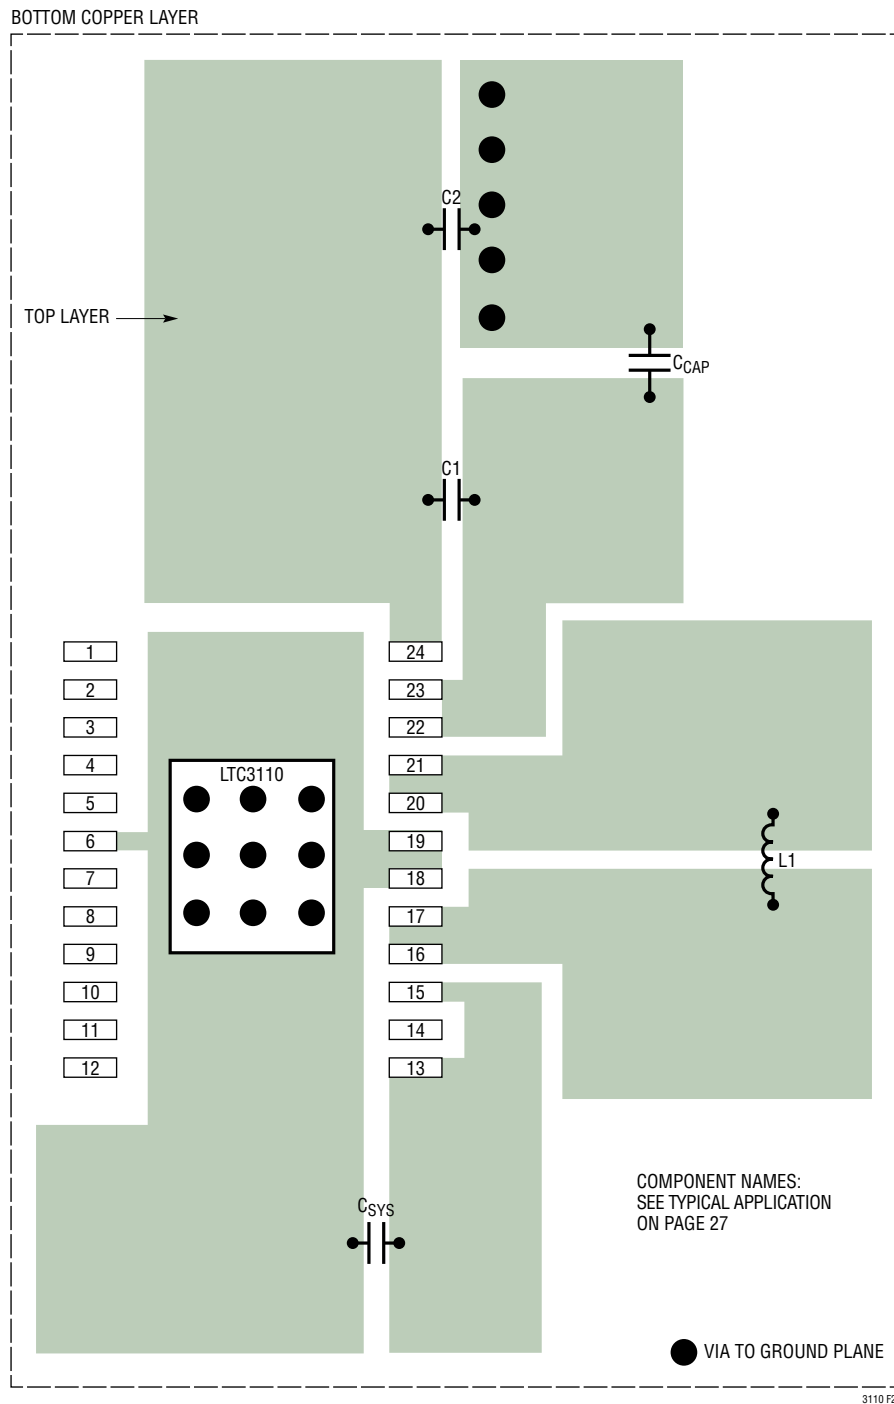

Figure 19. PCB Component Placement of the TSSOP Package
The LTC3110 switches large currents at high frequencies. Special care should be given to the PCB layout to ensure stable, noise-free operation. Figures 19 and 20 depict the recommended PCB layout to be utilized for the LTC3110, if a 2-layer PCB is being used. A 4-layer PCB layout is recommended for thermal and noise reasons. A few key guidelines follow:
1. All circulating high current paths should be kept as short as possible. This can be accomplished keeping the routes to the components in Figures 19 and 20 as short and as wide as possible. Capacitor ground connections should be connect by vias down to the ground plane in the shortest route possible. The bypass capacitors  $C_{SYS}$  and  $C_{CAP}$  should be placed as close to the IC as possible and should have the shortest possible path to ground.